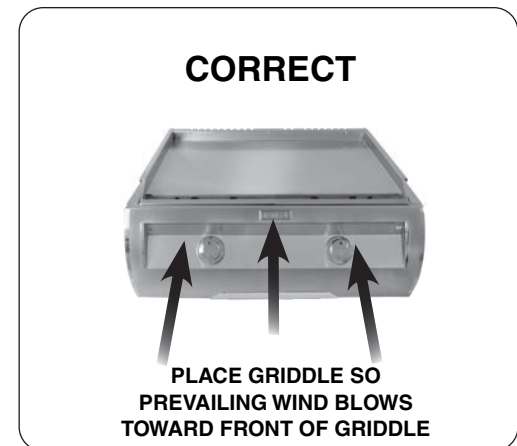
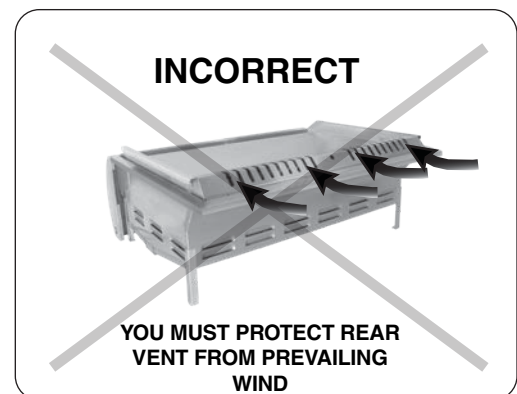

Fig. 12-3 Airflow direction - CORRECT
Fig. 12-4 Airflow direction - INCORRECT
**CAUTION:** Wind blowing into or across the rear vent (Fig. 12-4) can cause poor performance and/or dangerous overheating. Install the griddle so that the prevailing wind blows toward the front of the griddle (Fig. 12-3).